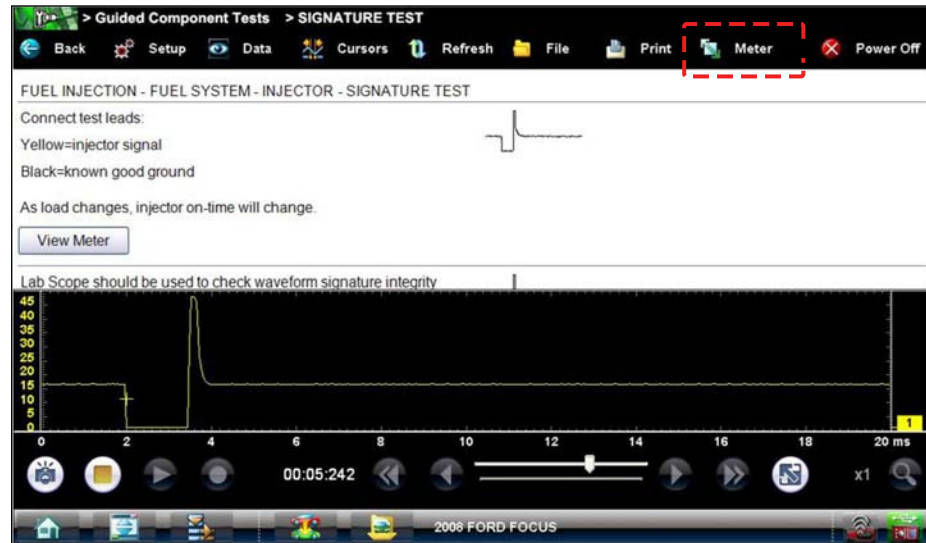

Figure 7-9 Sample view meter window
- **View Meter**—opens a live meter set up to perform the test in the lower portion of the screen (Figure 7-9). Once the meter view is open, the Guided Component Test toolbar at the top of the screen is replaced by the Scope Multimeter toolbar, which allows you to make adjustments to the settings. See Scope Multimeter Toolbar on page 93 for details.
A Meter icon, which is only available in the Guided Component Test view meter mode, appears on the upper toolbar (Figure 7-9).
1. With View Meter active (Figure 7-9), select the **Meter** icon on the toolbar once and the meter expands to fill the entire screen.
3. Select the **Meter** icon a third time to close the separate window and return to the standard meter view as shown in Figure 7-9.